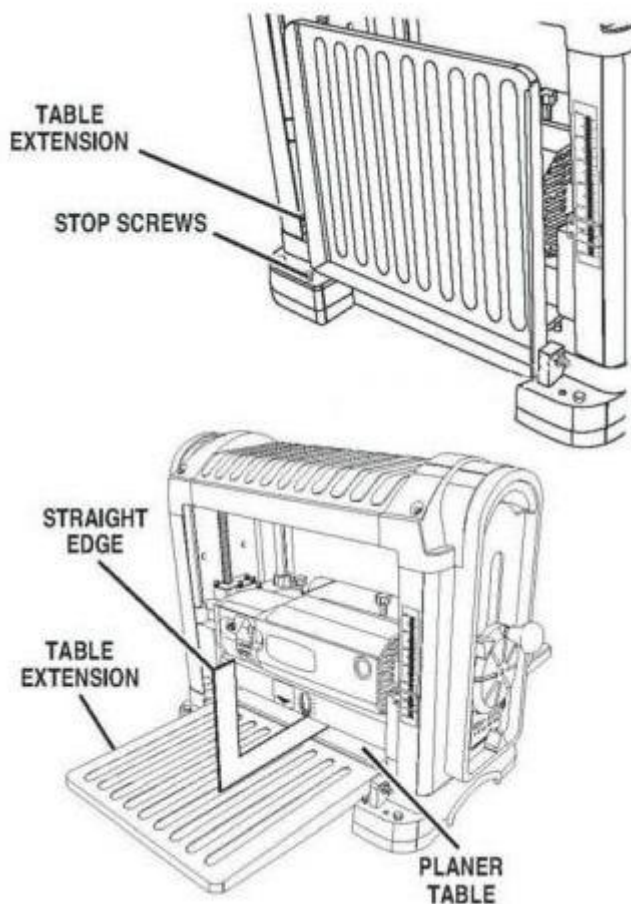

Fig 3.
1. Lay a straight edge on the planer table with one end of the straight edge over the infeed table. SEE FIG 3.